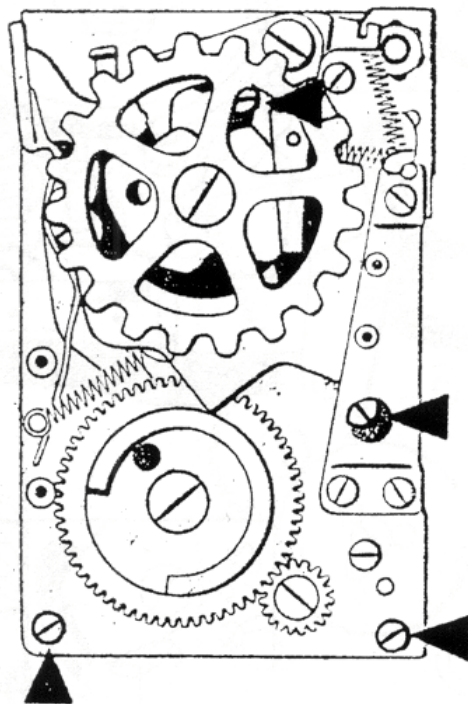

Fig. 6
- d) Undo the 4 fixing-screws for the shutter plate (left) 370.06 (see Fig. 6) and cover-plate 370.03-23 [3 screws inside on Exa II, 2 on Exa IIb]. If necessary withdraw the large speed adjustment wheel 370.06-31 from its 2 flats, having marked its position at the small adjusting wheel 370.04-41 and on the timing cam 370.06-30. Take off the shutter-plate.